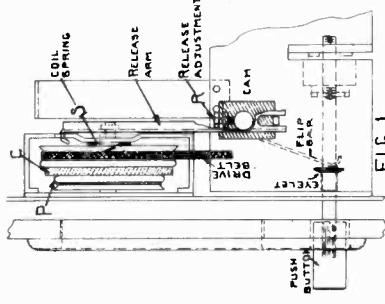
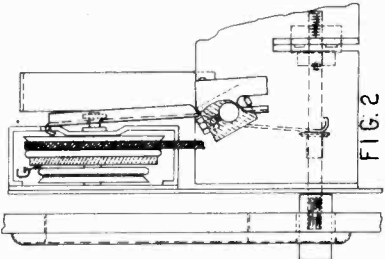

FIG. 1
FIG. 2
FIG. 1. SHOWS THE DIAL DRIVE MECHANISM IN ITS NORMAL STATIONARY POSITION ENGAGED FOR MANUAL TUNING. THE CORK ASSEMBLY CUSHES FRICTIONED AGAINST THE FACE OF STRING PULLEY P. DUE TO PRESSURE OF COIL SPRING S. THE PUSH BUTTON IS NOT PRESSED IN, LEAVING A SMALL GAP BETWEEN THE BRASS EYELET AND THE FLIP BAR.
FIG. 2. SHOWS THE FLIP BAR MOVING AT THE VERY START OF WHICH THE EYELET MOVES THE FLIP BAR, CAUSING THE RELEASE ARM TO OVERCOME THE COIL SPRING TENSION AND DRAW THE CORK CLUTCH AWAY FROM THE STRING PULLEY FACE. POINT G. ALL OF THIS ACTION TAKES PLACE BEFORE THE PUSH BUTTON SCREW STARTS TO ACTUATE THE VARIABLE CONDENSER.
THE OBJECT OF THE ABOVE MECHANISM OF COURSE IS TO ELIMINATE THE PRESSURE THAT OTHERWISE WOULD BE REQUIRED IF THE MANUAL TUNING CONTROL HAD TO BE SPUN AROUND WHEN USING THE PUSH BUTTONS. THE SCREW ADJUSTMENT R, FIG. 1, WILL PROVIDE THE PROPER AMOUNT OF CLUTCH RELEASE CLEARANCE AT G, FIG. 2.
- Slipping of the dial mechanism may be due to any of the above items or lack of sufficient cork friction which in turn may be due to weakness in tension spring S (FIG. 1) or a tight bearing at this point.